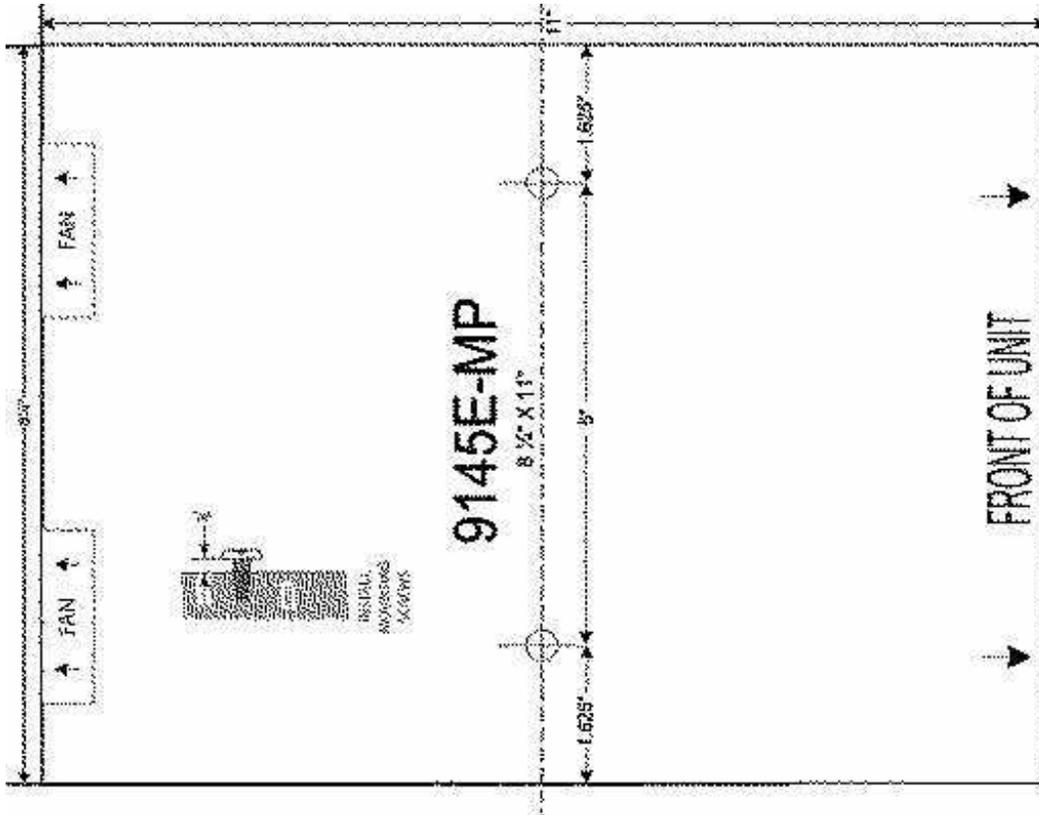

Figure 3-9 9145EMP Wall Mount Template
1. Tape the template (Figure 3-9) to the wall, ensuring that the edge of the template corresponding to the direction you wish to mount the unit is parallel to the floor and ceiling.